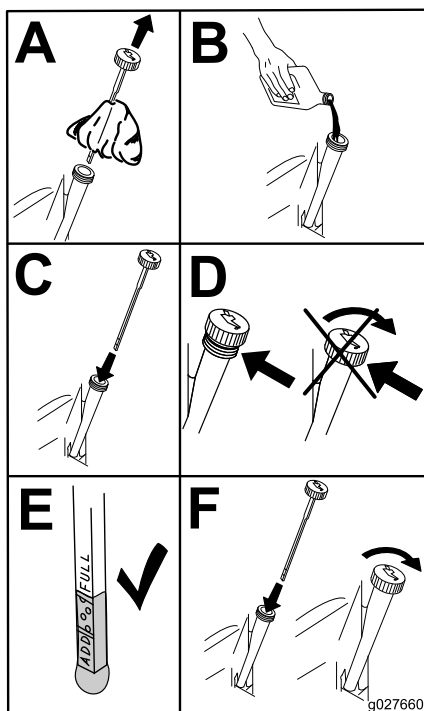

Figure 32
4. Slowly pour approximately 80% of the specified oil into the filler tube and slowly add the additional oil to bring it to the **Full** mark (Figure 32).